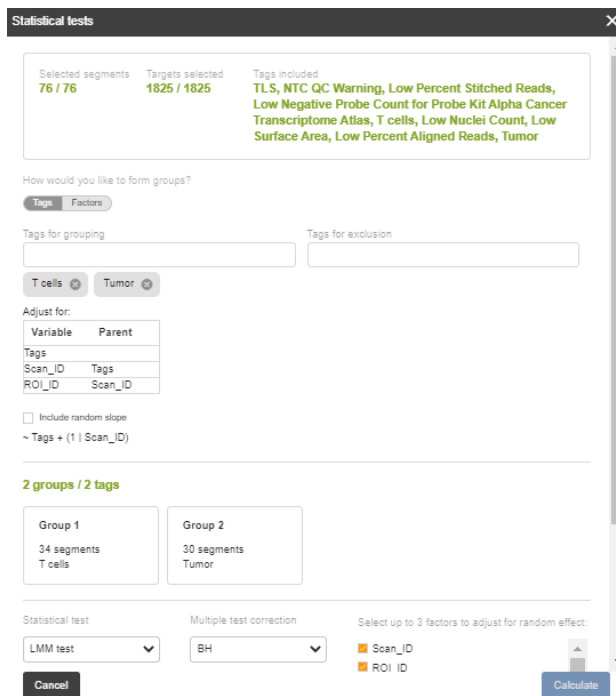

Figure 39: Statistical tests parameters window
1. In the box at the top of the Statistical tests window (see Figure 39), review the selected segments, targets, and tags to be included in this analysis. If these are not correct, exit this window and select or create another dataset.